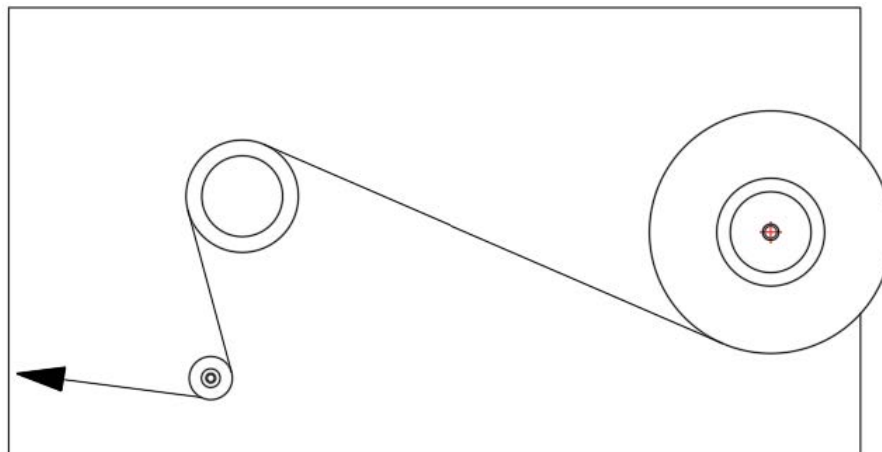

Figure 13
2. Follow the film feed diagram and thread the film all the way through the rollers (See Figure 13)
1. Load the film roll in the film carriage and thread the film according to Figure 13